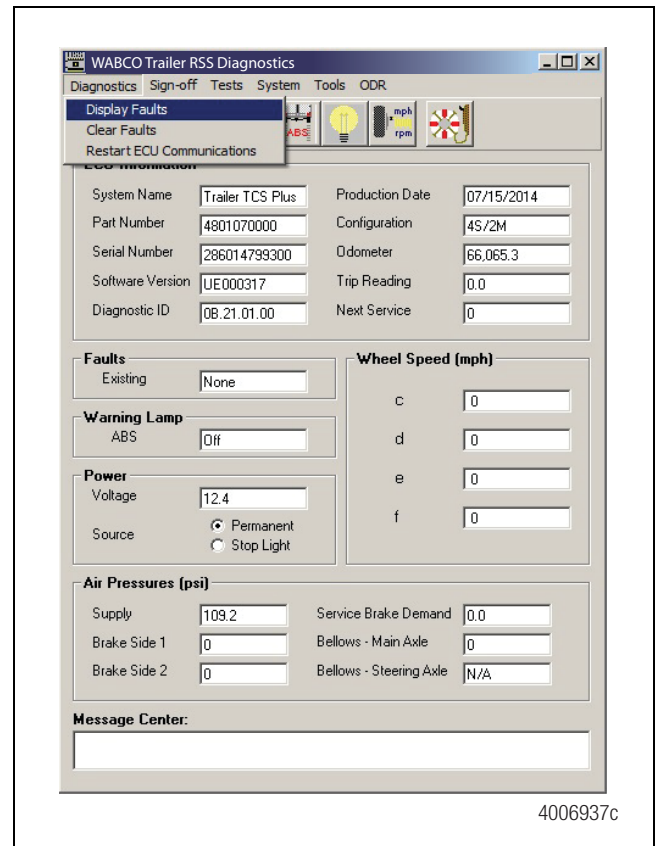

Figure 72
2. From the main screen of the WABCO trailer EBS diagnostics software, select **Diagnostics** from the top menu bar. Figure 72.